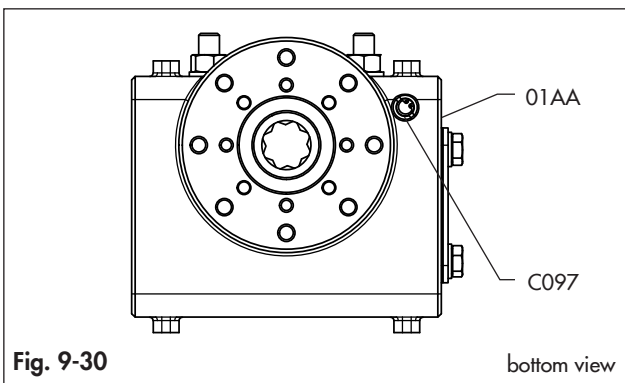

Fig. 9-30
- Clean the relief valve (C097) lower bore over the Central module housing (01AA) bottom side making sure it is not obstructed. (Fig. 9-30).